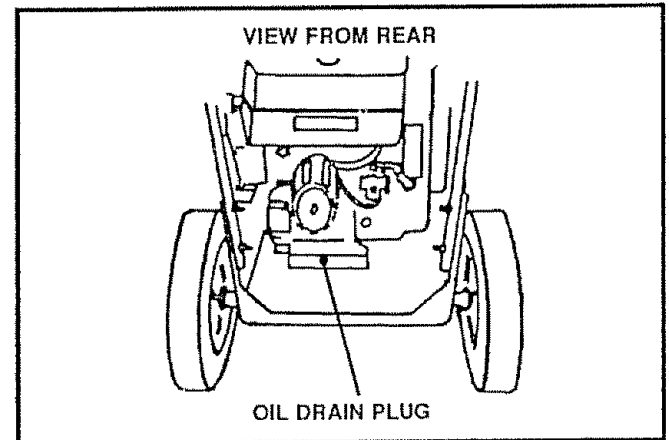

FIG. 8
- Remove the oil drain plug (See Fig. 8) and drain the oil into a flat pan. After draining all the oil, reinstall the oil drain securely.